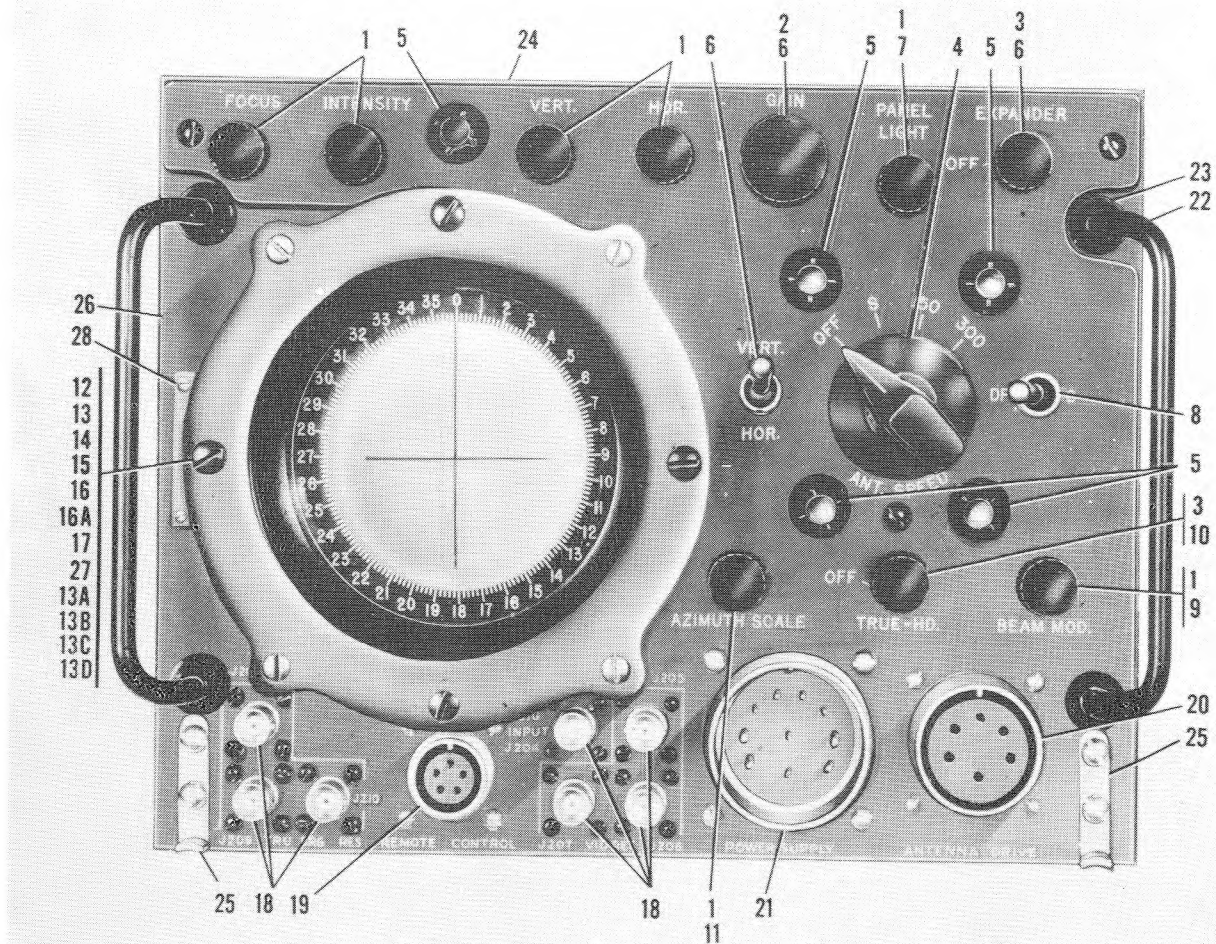

Figure 6-3A. Azimuth Indicator IP-243/ALA-6, Front Panel
- SECTION VI** Replace figure 6-3 with figure 6-3A, included here.
- Step 3. Remove the bezel by removing screws "D" (figure 6-3A). Bezel and azimuth scale assembly may be removed from the panel.